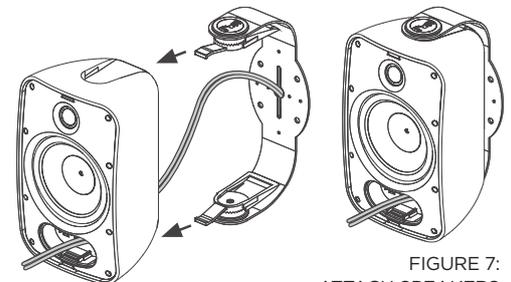

FIGURE 7:
5. Slide the speaker onto the bracket until the locks snap into place. Pull enough wire through the front of the speaker to allow connection to the terminals (see figure 7).